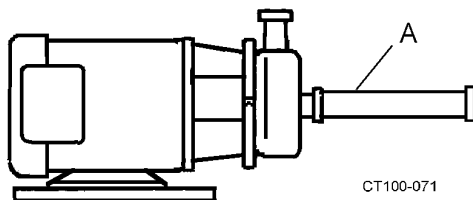

Figure 12 - Straight Pipe Length
- Maintain a straight length of pipe (Figure 12, item A) at least 8 diameters long at the pump inlet.